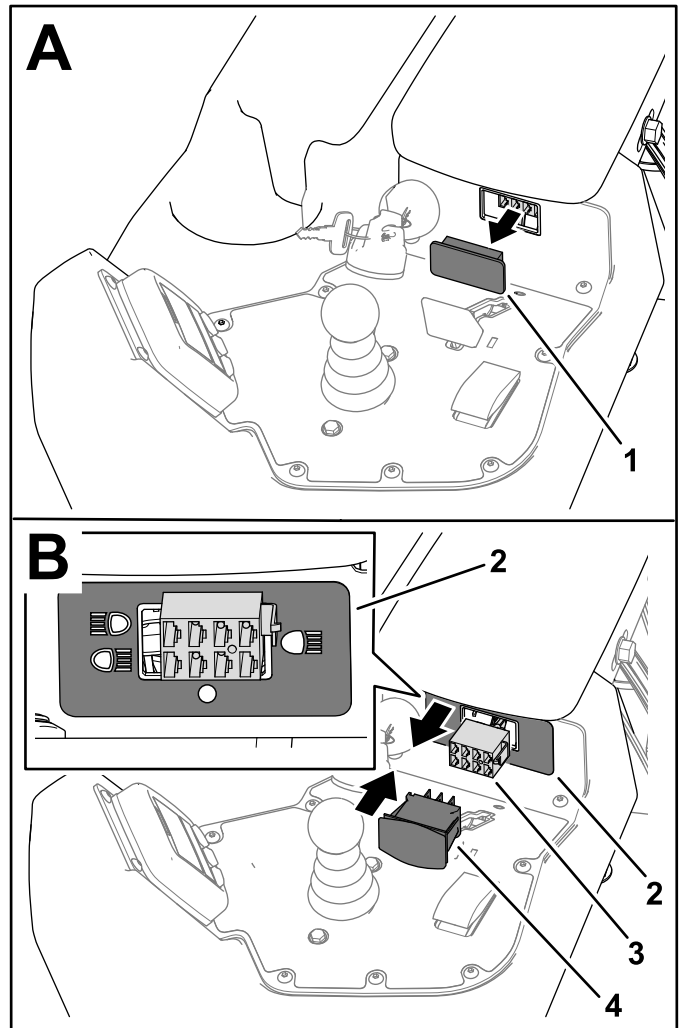

Figure 4
1. Remove the plug from the console (Figure 4).
2. Apply the decal (Part No. 131-2046) as shown in Figure 4.
Observe the correct orientation of the decal as shown in Figure 4.
3. Connect the wire-harness connector labeled WORK LIGHT SWITCH to the switch (Figure 4) and install the switch.